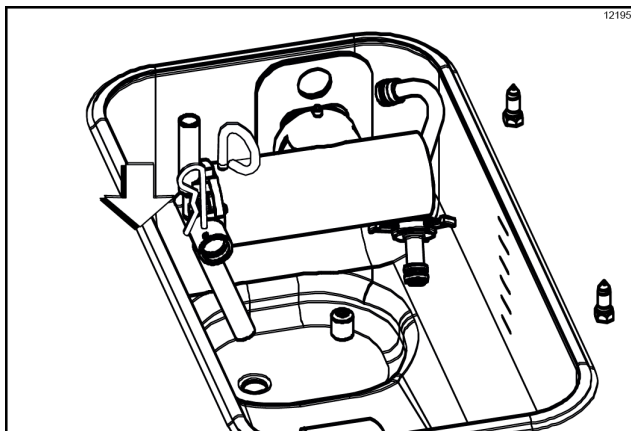

Figure-162
17. Remove the cotter pin from the pump. Stand the mix feed tube in the corner of the mix hopper. Place the cotter pin in position in the outlet fitting of the pump. (See Figure-162.)